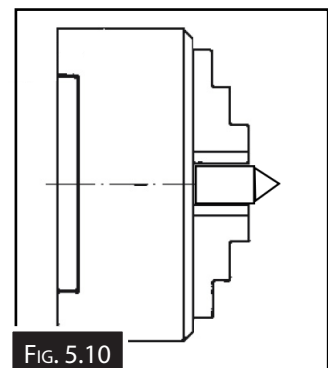

FIG. 5.10
2. Use the other piece of round stock to make a dead center, and turn it to a 60° point, as illustrated in the Fig. 5.10.